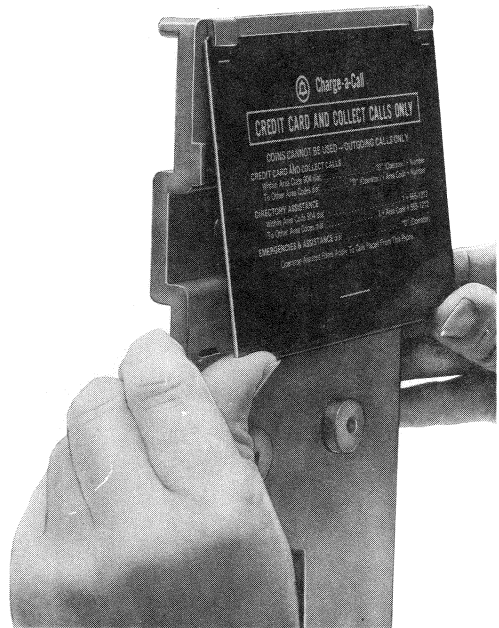

Fig. 12—Installing Instruction Card On Rear Panel Support of KS-22284 Backboard
- (1) Place top of card under tabs on panel (Fig.12).
- (2) Push back and down under bottom tabs.
- (3) Ensure that card is seated properly.